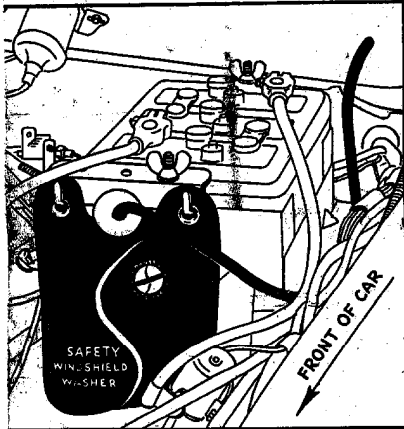

FIG. 4
1. Locate template on inside of dash as shown in Figure 4 and drill two 9/64 diameter holes in the proper location as shown for the various models. Mount pump with nipples on top. Use the two long screws to fasten pump to dash.
to allow the screen to clear bottom of flexible jar. Use a drift punch and punch a hole through the dash at location shown in Figure 4 or 5 (depending on car model) just large enough to allow the tube to be pulled through. Cut tube to proper length and connect to large nipple on pump. Connect small tube to nozzle and small nipple on pump. Dress the small tube over the chassis cables so it will not loop or sag down.